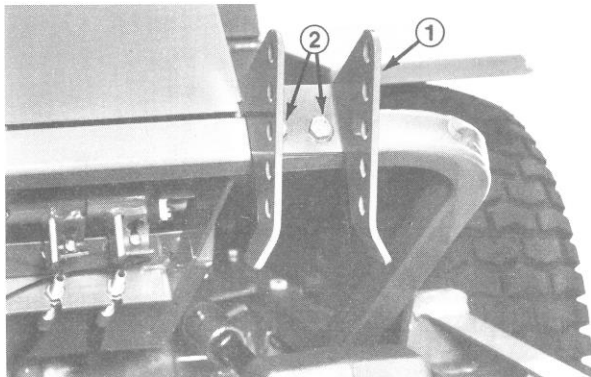

Figure 7
2. Assemble bracket to frame and secure with capscrews, lockwashers and nuts (Fig. 7).